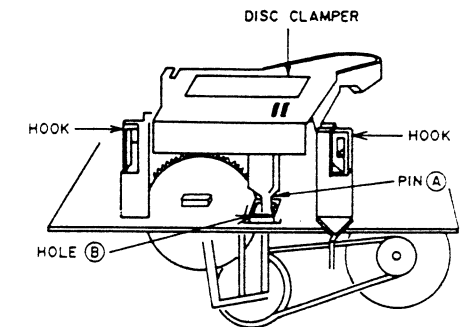

Fig. 4-2
- Remove DISC CLAMPER while releasing the HOOKS as shown Fig.4-2.